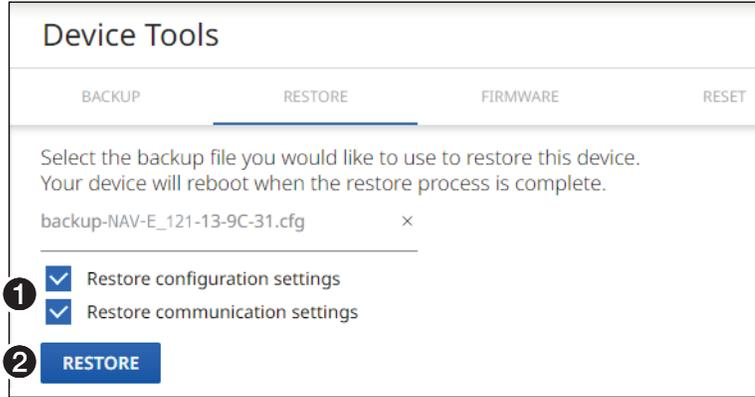

Figure 23. Tools – Restore Function, Steps 5 and 6
4. Click **Open** (❷). The Tools page returns to the top (see figure 23 on page 29).
5. Select (click) the settings to restore (**Configuration, Communication**, or both; see figure 23, **1**).